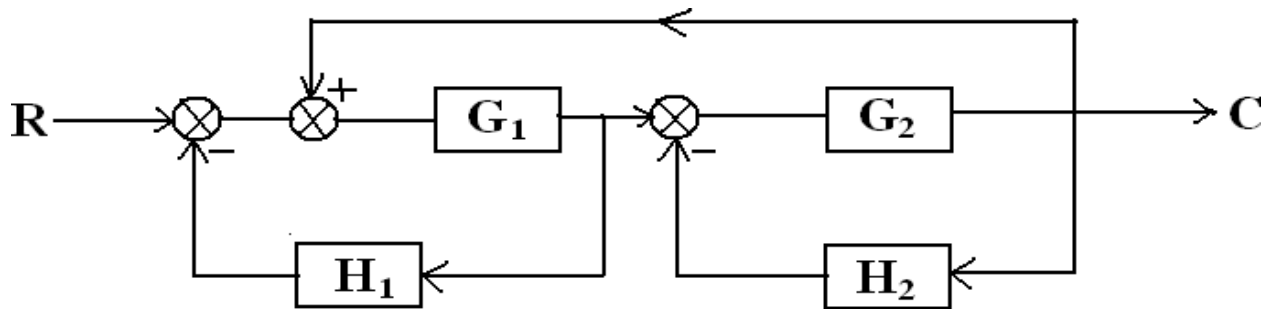

Figure 1
3. Reduce the block diagram shown in Figure 1, to its simplest possible form and find its closed loop transfer function.